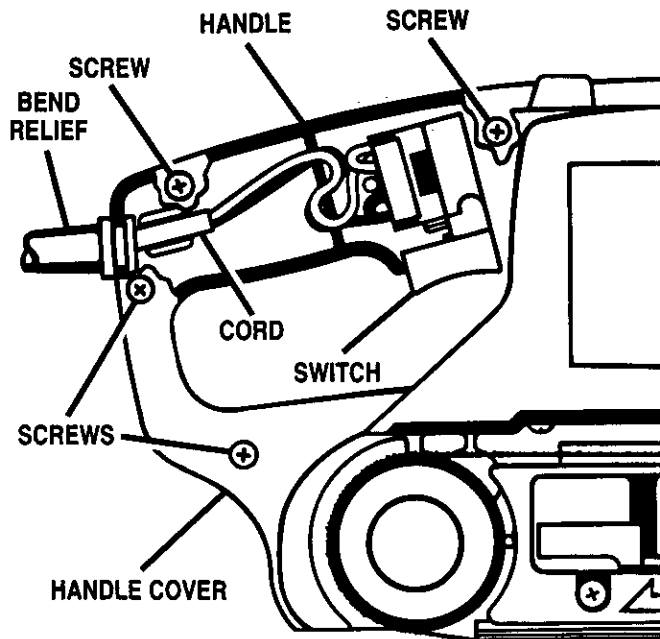

Fig. 15
See Figures 15 and 16.
- Remove the handle cover screws and handle cover. Note the locations of all wiring in the handle and how each connection is made to the switch. Connections and wiring position must be identical when installing new cord. See Figure 15.
- Arrange the wiring in the handle so that it will not be pinched or contact screws when the handle cover and screws are replaced. Position the switch in place. See Figure 15.